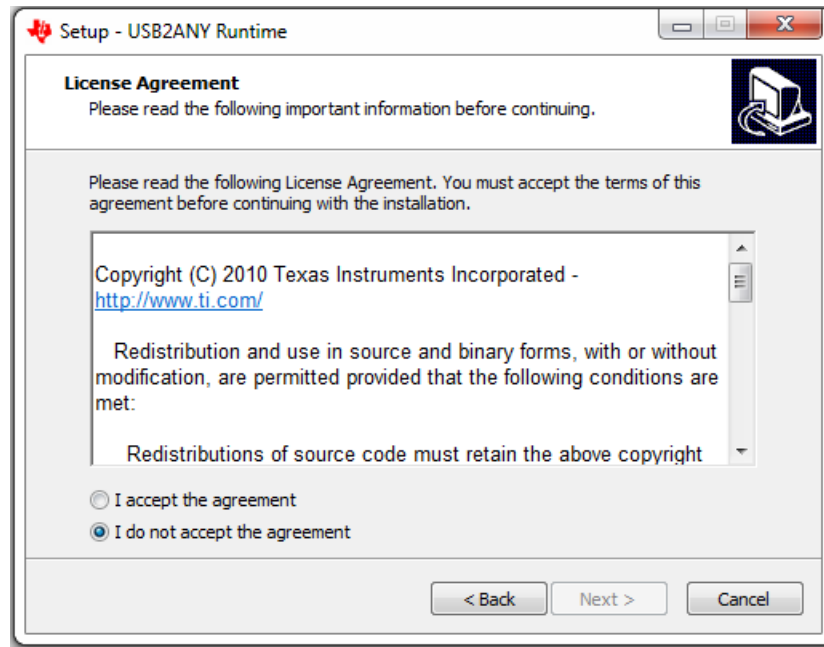

Figure 23. USB2ANY License Agreement
10. The *License Agreement* appears, as shown in Figure 23. Read through the agreement carefully and enable the *I Accept the License Agreement* radio button, then press the *Next >* button.